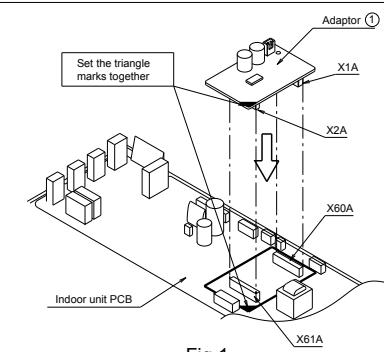

Fig.1
- Mount the Adapter ① on the indoor unit PCB by setting the triangle marks together.(Fig.1)
③ ELECTRIC WIRING for MODELS OTHER THAN FFQ
- (1) Mount the adapter ① on the indoor unit PCB by setting the triangle marks together. (Fig. 1② ELECTRIC WIRING for FFQ model))